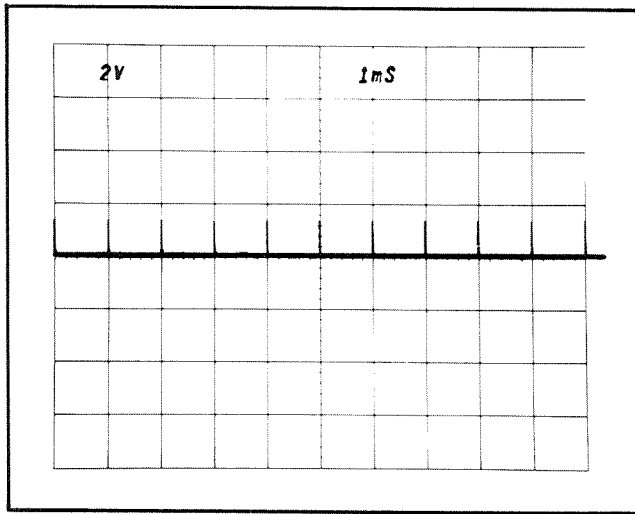

Fig. 5-4. CRT display showing SWP CAL adjustment correctly set.
c. CHECK—CRT display for one 1 ms marker for each division between the second and tenth vertical lines (see Fig. 5-4).